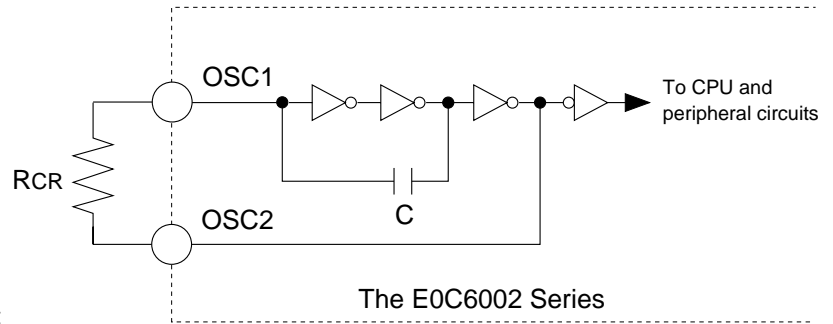

Fig. 4.2.2
For the E0C6002 Series, CR oscillation circuit (typ. 65 kHz) may be selected by a mask option. Figure 4.2.2 is the block diagram of the CR oscillation circuit.
As Figure 4.2.2 indicates, the CR oscillation circuit can be configured simply by connecting the register (RCR) between pins OSC1 and OSC2 since capacity (C) is built-in. See Chapter 6, "ELECTRICAL CHARACTERISTICS" for RCR value.